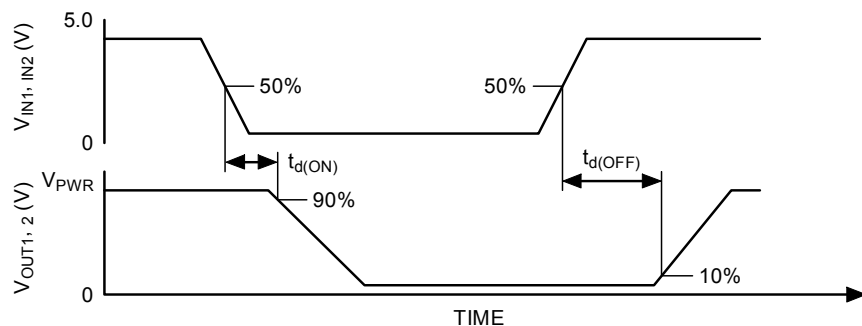

Figure 4. Output Delay Time
22. Output Delay is the time duration from the midpoint of the IN1 or IN2 input signal to the 10% or 90% point (dependent on the transition direction) of the OUT1 or OUT2 signal. If the output is transitioning High-to-Low, the delay is from the midpoint of the input signal to the 90% point of the output response signal. If the output is transitioning Low-to-High, the delay is from the midpoint of the input signal to the 10% point of the output response signal. See Figure 4, page 9.